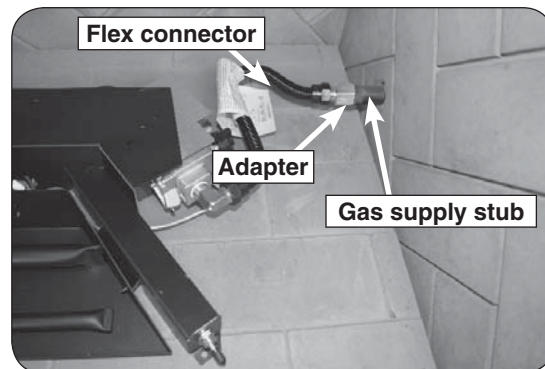

Fig. 18-1 Connect gas supply
2. Locate the gas-supply stub inside the fireplace and remove the cap, if attached (reference Fig. 18-1).
4. **Be sure gas to the fireplace is off.** Remove the adapter connected to the flex connector (pre-installed on the burner system). Attach the adapter to the gas-supply stub using a pipe compound resistant to all gasses. Tighten securely. Then attach the open end of the flex connector to the adapter. Tighten securely (see Fig. 18-1). Ensure the pan rests level on the fireplace floor after connection. Adjust the pan if necessary.